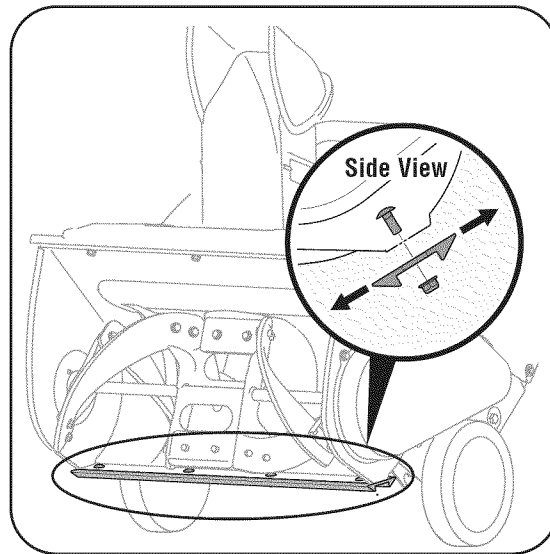

Figure 7
2. To adjust, tip the snow thrower back so that it rests on the handle. Loosen the lock nuts and bolts which secure the shave plate to the housing. See Figure 7. Move the shave plate to desired position and retighten the nuts and bolts securely.
The shave plate is attached to the bottom of the auger housing and is subject to wear. It should be checked periodically. There are two wearing edges and the shave plate can be reversed. Refer to Figure 7.